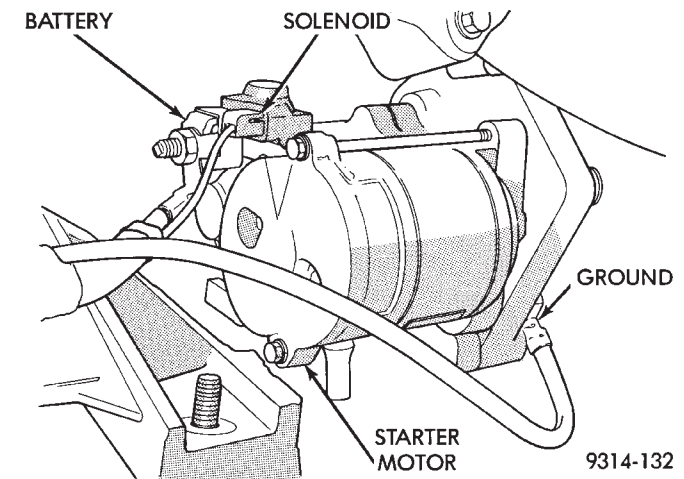
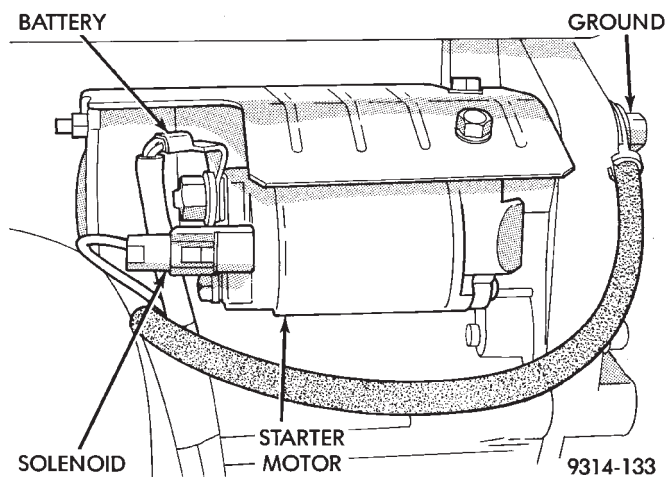

Fig. 54 Starter Motor—3.3L Engine
Fig. 55 Starter Motor—3.5L Engine
(22) Check for loose or corroded electrical connections at the starter motor (Fig. 54) or (Fig. 55).